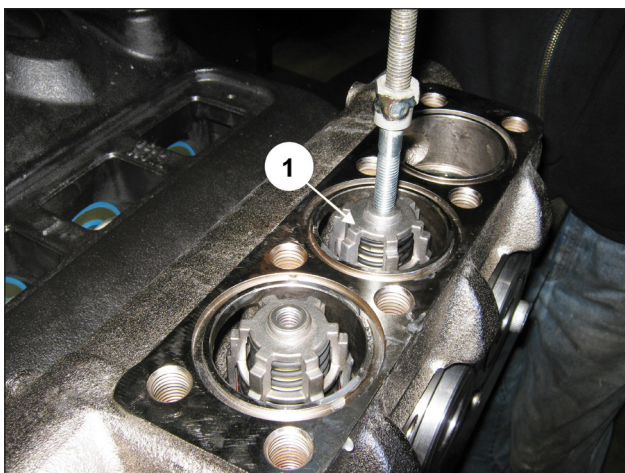

Fig. 145
The complete valve unit must be driven fully home and should appear as shown in pos. ①, Fig. 145.